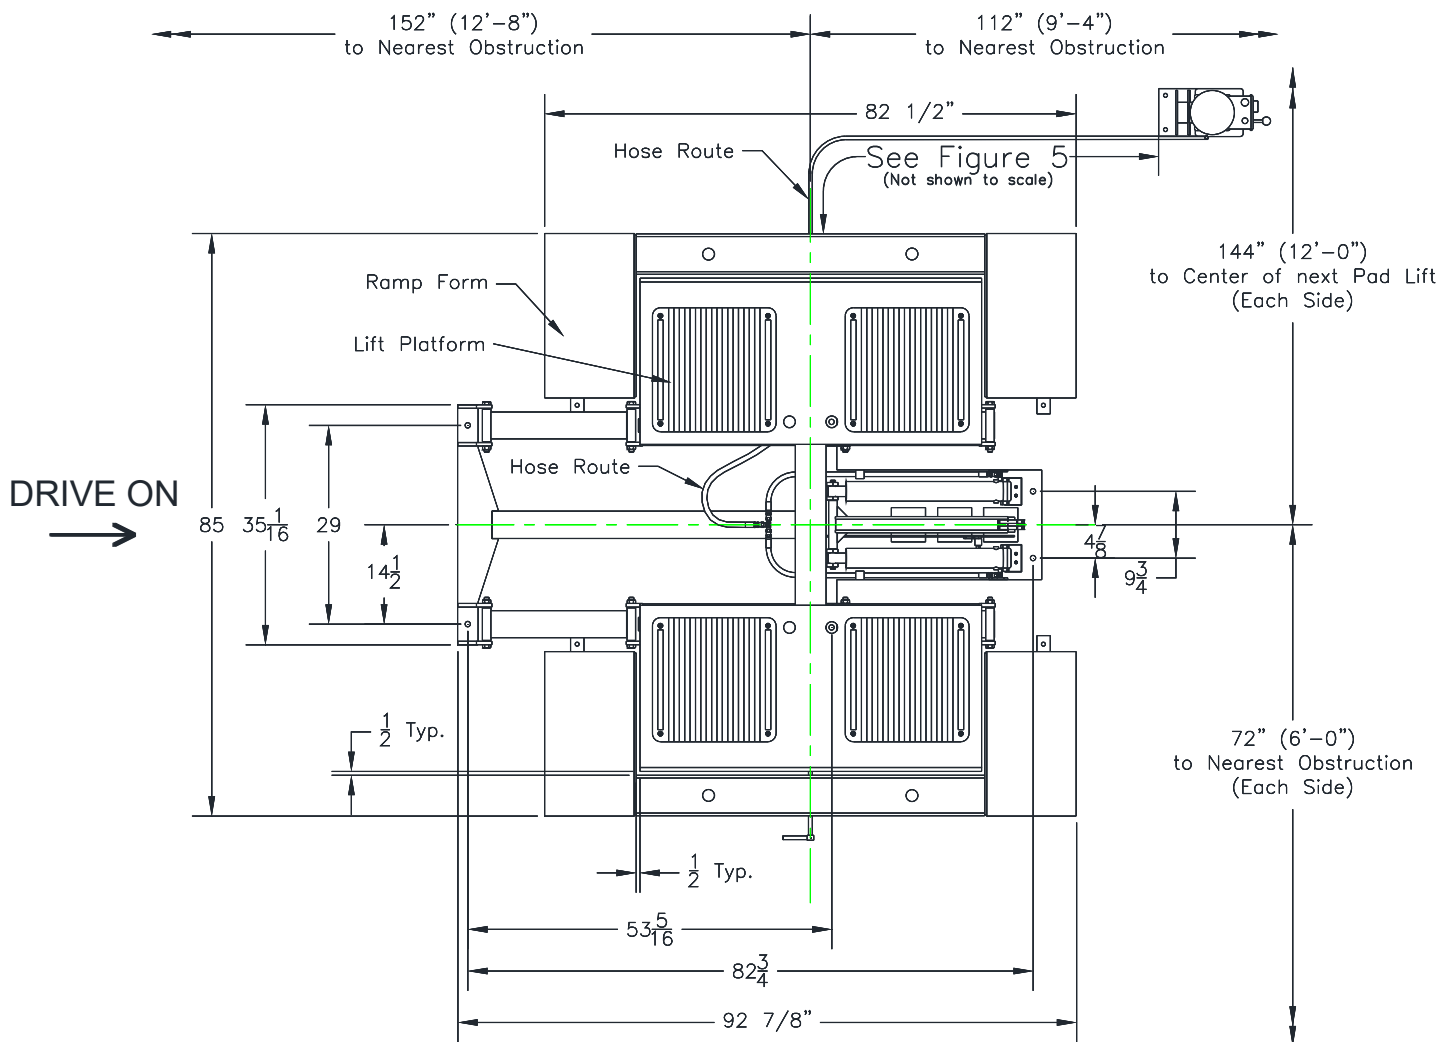

Fig. 1A General Surface Mount Layout
2. Place lift and ramps in desired location. The ramp should be located to allow a minimum 1/2" clearance around the lift platform, See Fig. 1A.